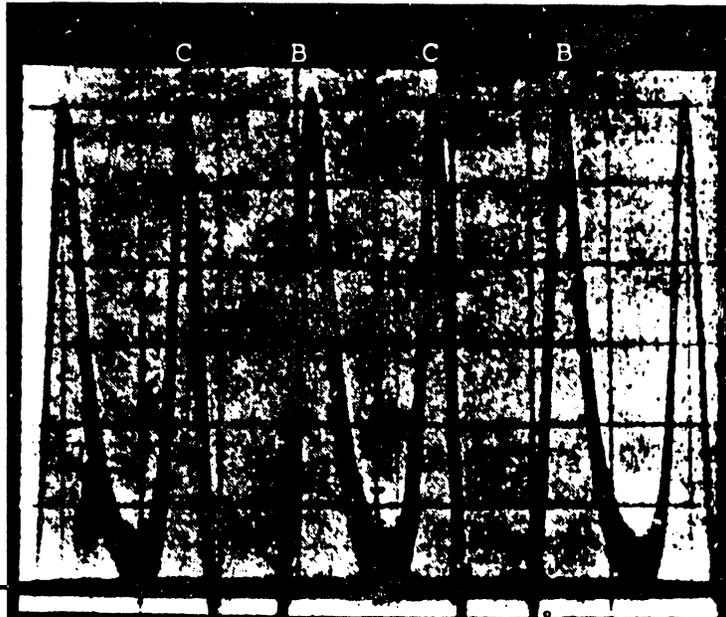
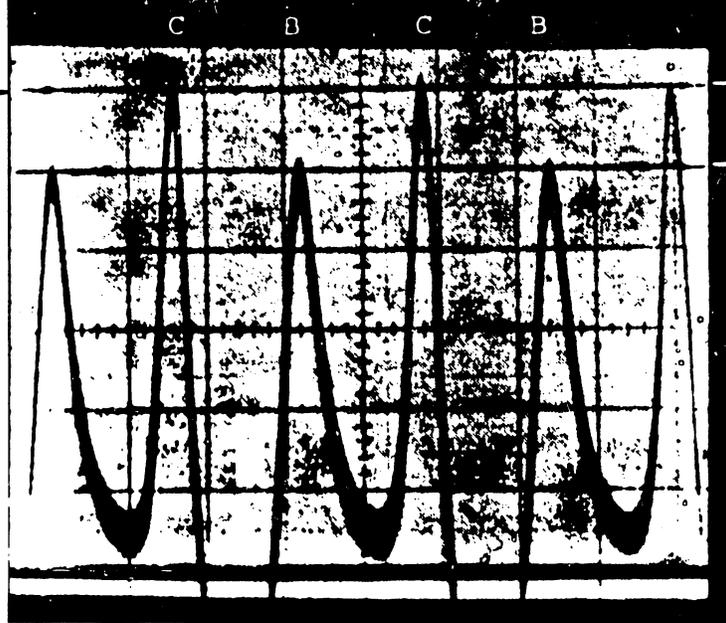
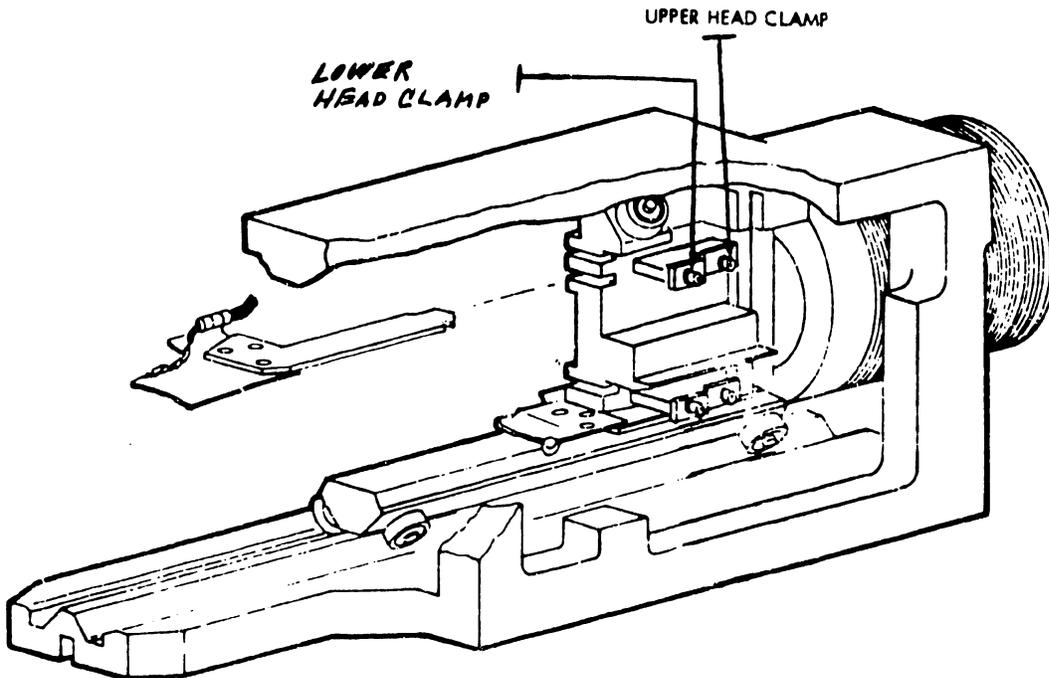

FIGURE 4-64 HEADS ALIGNED
FIGURE 4-65 HEADS NOT ALIGNED
FIGURE 4-66 HEAD CLAMP SCREWS
19. If the display on the oscilloscope is the same as in Figure 4-64 or if it is inverted, the head does not need alignment. But if the display is the same as Figure 4-65, continue on to step 20.
20. Loosen the selected head clamp screw for the upper head (Figure 4-66). Using head alignment tool (WLI Part #726-9647), adjust the selected head to obtain the signal shown in Figure 4-64. Tighten the upper head clamp and torque to $3.6 \pm .05$ inch-lbs.
22. Perform steps 19 and 20 for lower head, using the lower head clamp screw for adjustment (Figure 4-66) if necessary.